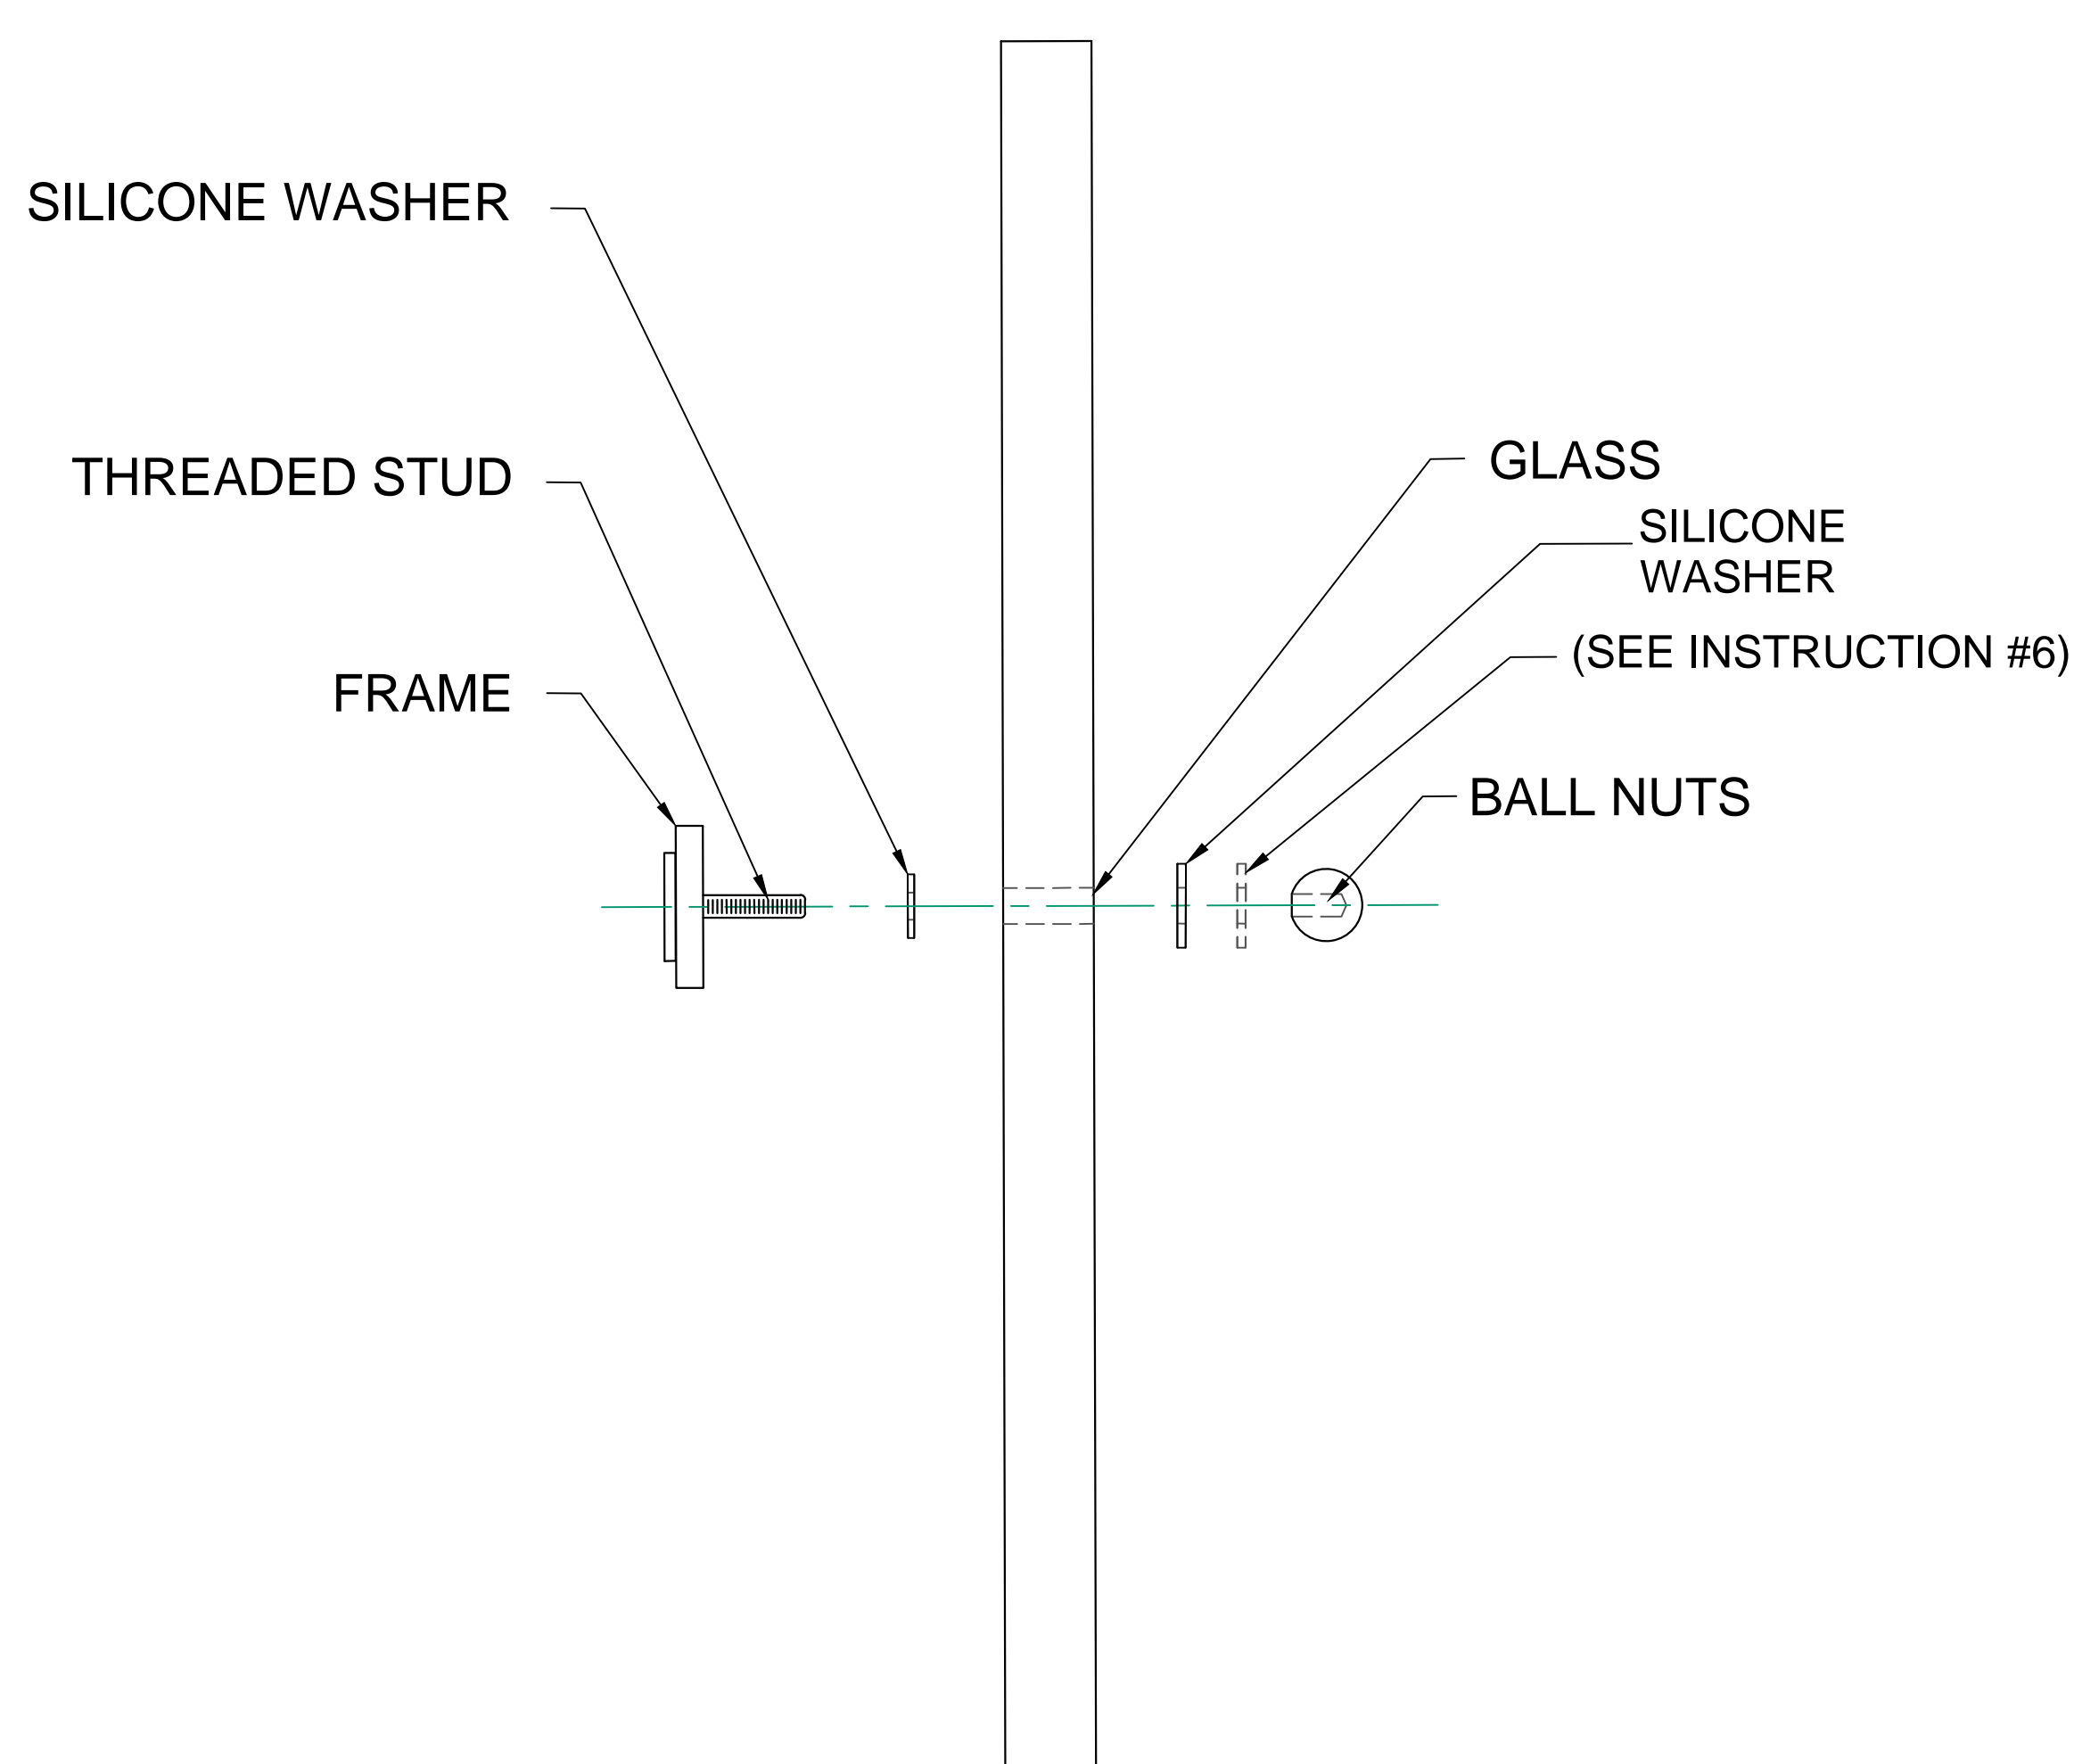

FIGURE-03
5. Install glass unto the ring and secure it with silicone washers and ballnuts.(See sequence on Figure-03) If the glass is thin and loose, add an additional silicone washer.